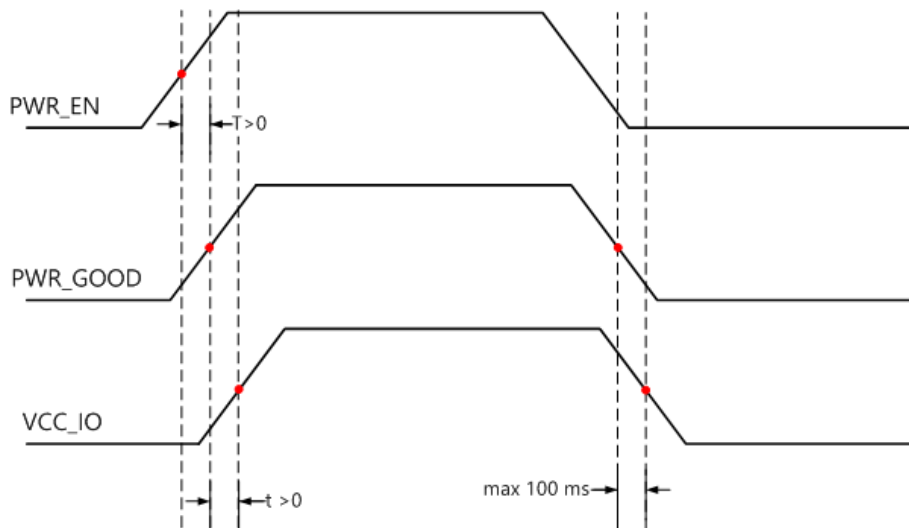

Figure 9: Power-Up Sequence - VCC\_IO in Relation with PWR\_GOOD and PWR\_EN Signals
*Do not power the VCC\_IO pins when PWR\_GOOD and PWR\_EN signals are not active. If the module is not powered, you need to make sure that the VCC\_IO voltages are disabled (for example, by using a switch on the base board, which uses PWR\_GOOD as enable signal). Figure 9 illustrates the VCC\_IO power requirements.*
<p>Do not apply any other voltages to the PWR_EN pin than 3.3 V or GND, as this may damage the Mars ZX3 SoC module. PWR_EN pin can be left unconnected.</p> <p>Do not power the VCC_IO pins when PWR_EN is driven low to disable the module. In this case, VCC_IO needs to be switched off in the manner indicated in Figure 9.</p>